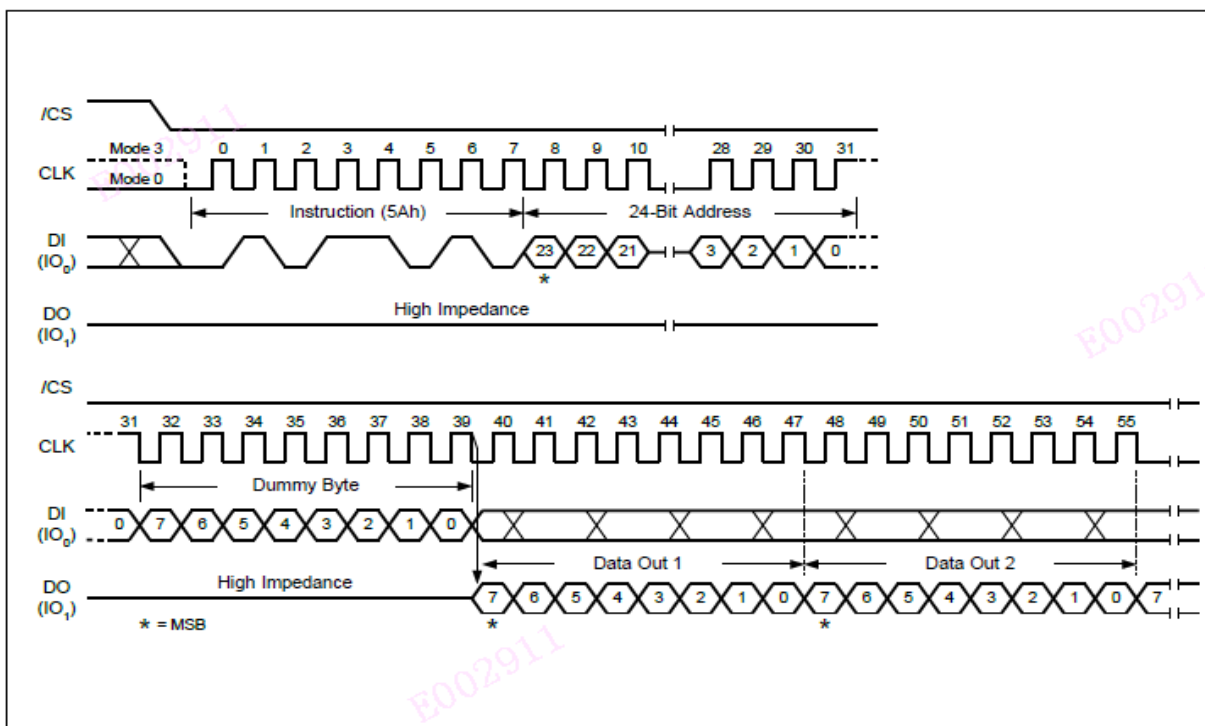

Figure 34. Read SFDP Register Instruction Sequence Diagram
The Read SFDP instruction is initiated by driving the /CS pin low and shifting the instruction code “5Ah” followed by a 24-bit address (A23-A0)(1) into the DI pin. Eight “dummy” clocks are also required before the SFDP register contents are shifted out on the falling edge of the 40th CLK with most significant bit (MSB) first as shown in Figure 34. The byte address is automatically incremented to the next byte address after each byte of data is shifted out. The last byte address of the register is FFh (the data will always be FFh when read after the last address), For SFDP register values and descriptions, please refer to please refer to the following SFDP Definition Table.